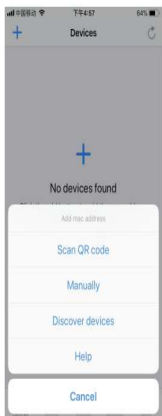

Figure 4
4. Run Easythings APP, tap add button "+" on the APP to add device, then choose "Discover devices" to discover device, then **short press the "K2" button on the curtain motor controller twice (or reset power of the controller twice continuously)** to set the device into pairing to APP mode. (As shown in **Figure 3** & **Figure 4** & **Figure 5**)